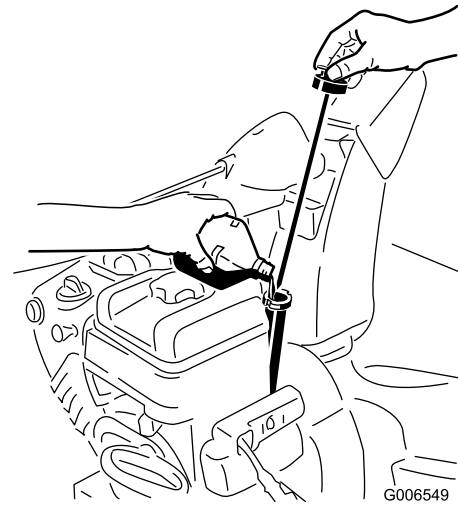

Figure 13
1. Remove the dipstick and **slowly** pour oil into the oil fill tube to raise the oil level to the Full mark on the dipstick. **Do not overfill** (Figure 13). Refer to Checking the Engine Oil Level in Maintenance.